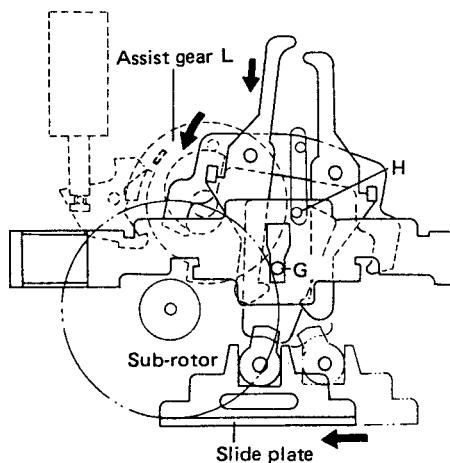

Fig. 1-21 DIRECTION operation 5
- Since the H point on the coupling plate functions as a support point, as the G point is shifted to the left, the slide plate also moves to the left with the two plates above. This is shown in Fig. 1-21.